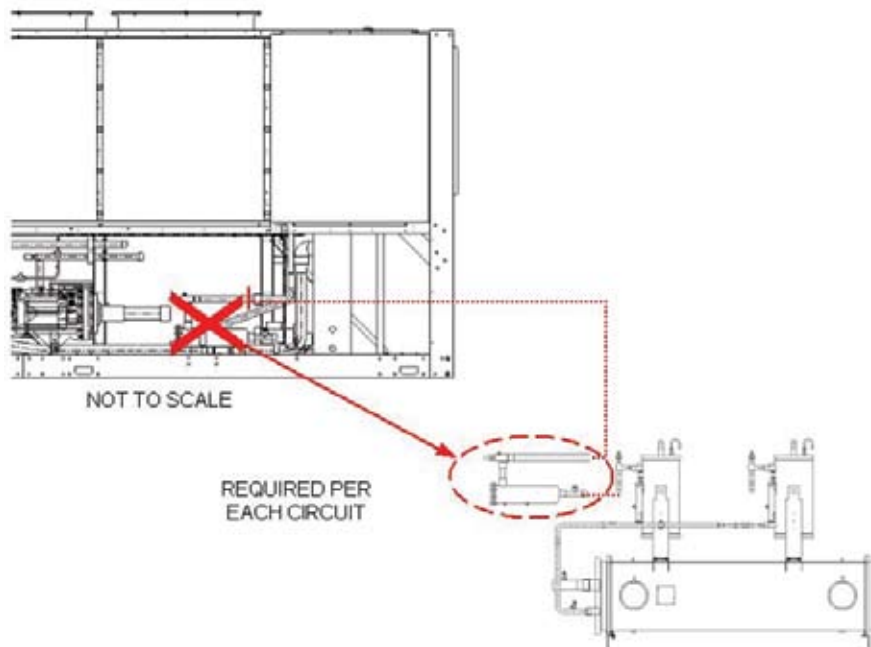

FIGURE 3
A. The shutoff valve and filter drier must be moved and installed with the remote evaporator piping per each circuit. See Figure 3. (Preferred Alternative)